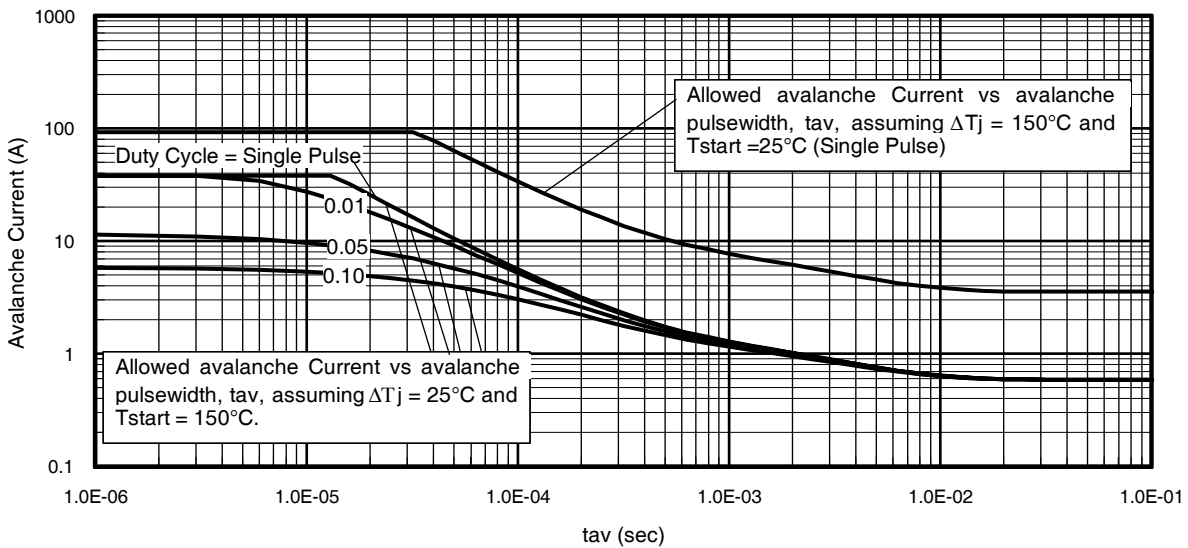

Fig 14. Typical Avalanche Current vs. Pulsewidth
**Notes on Repetitive Avalanche Curves , Figures 14, 15:**
7.  $\Delta T$  = Allowable rise in junction temperature, not to exceed  $T_{jmax}$  (assumed as  $25^{\circ}C$  in Figure 14, 15).